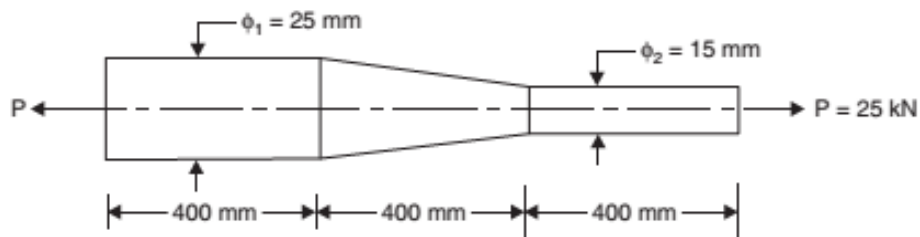

Fig.1
- 1 a) Define Bulk modulus. Calculate the change in volume of a cubical block of side 120 mm subjected to a hydrostatic pressure of 70 MPa. Take Poisson's ratio 0.28 and young's modulus 200 GPa. (5)
- b) A steel rod 2 m long and 3 mm in diameter is extended by 0.75 mm when a weight W is suspended from the wire. If the same weight is suspended from a brass wire, 2.5 m long and 2 mm in diameter, it is elongated by 4.64 mm. Determine the modulus of elasticity of brass if that of steel be 2×10^5 N/mm². (10)
- 2 a) State and explain principle of superposition. (5)
- b) Calculate the total deformation of the bar shown in fig.1 What will be the diameter of a bar of uniform cross section, to have the same strain as that of the stepped bar? Take Young's modulus as 200 GPa. (10)